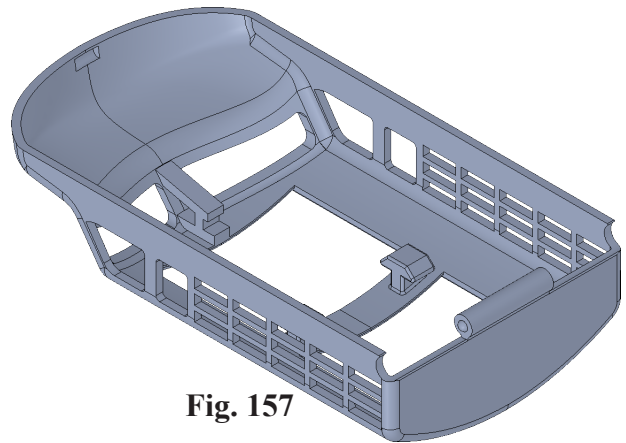

Fig. 157
Step 1. Rotate view to view front solar panel catch, **Fig. 157**. To rotate view, in **Isometric**